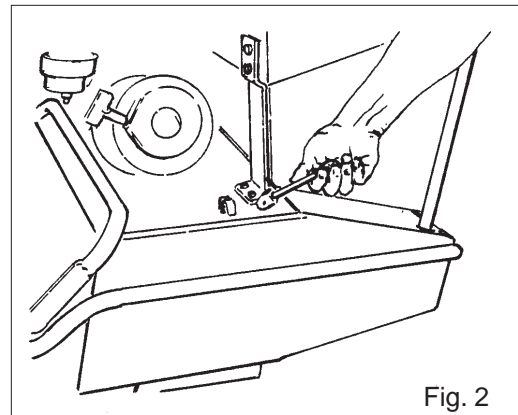

Fig. 2
1. Adjust the main broom to correct sweeping\* by rotating broom adjusting lever - clockwise to raise, counterclockwise to lower. (See Fig. 2)
The main broom should be periodically readjusted as needed to compensate for wear. Use the broom-adjusting lever to accomplish this. rotate counterclockwise to lower and clockwise to raise. (See Fig. 2, page 6)